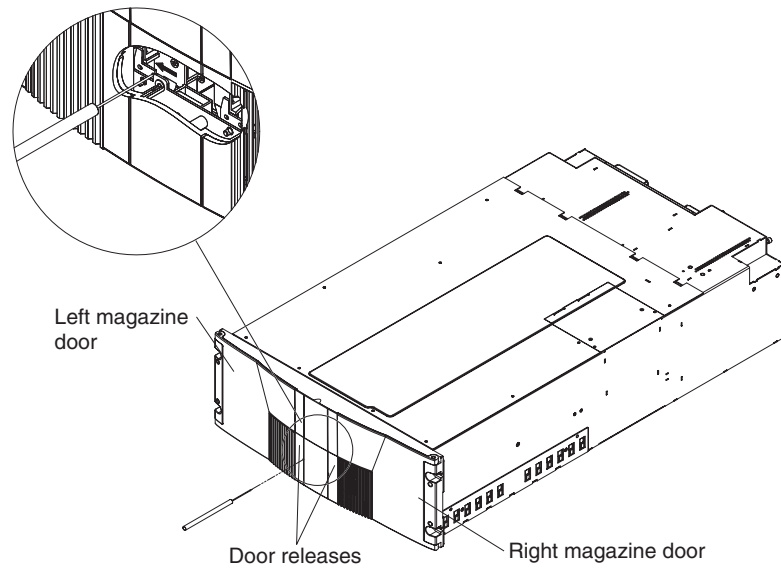

Figure 15. Door release
2. To open the door, insert the metal pick that is provided in the accessory kit into the door release hole as shown in Figure 15 on page 38.